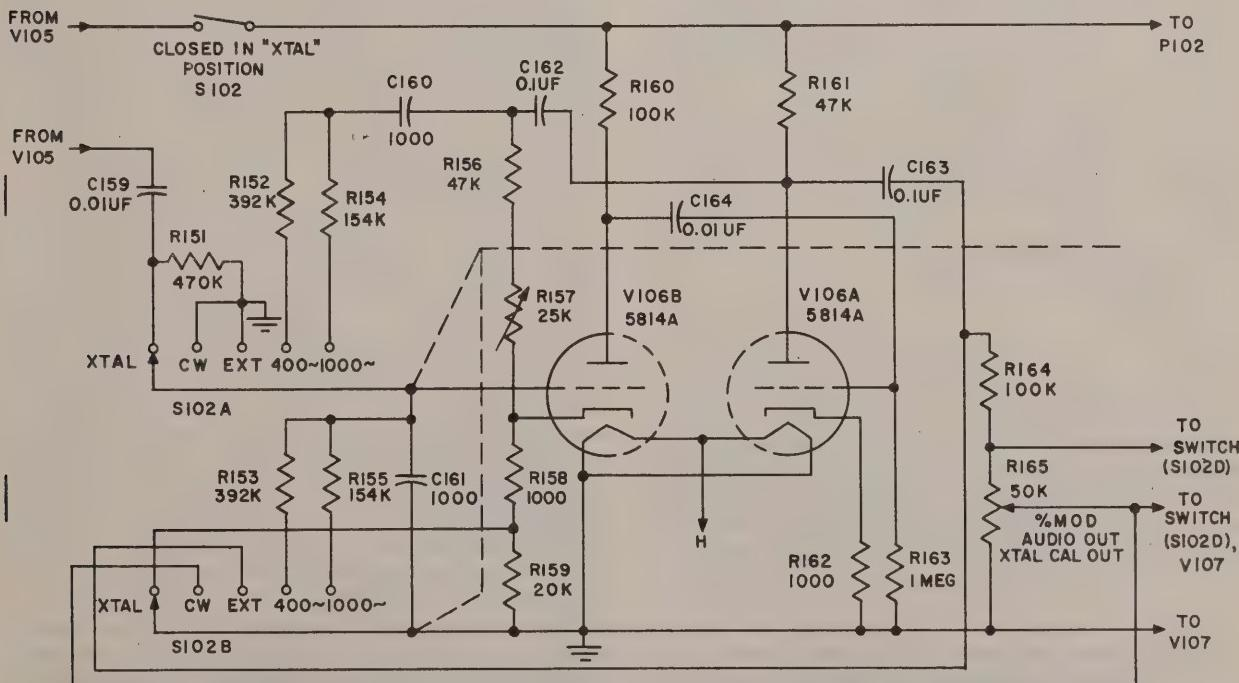

Figure 2-5. Simplified Schematic Diagram of the Modulation Oscillator
**b. MODULATION OSCILLATOR (See figure 2-5).**